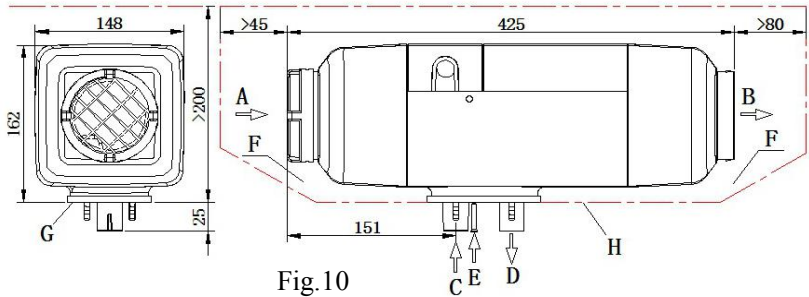
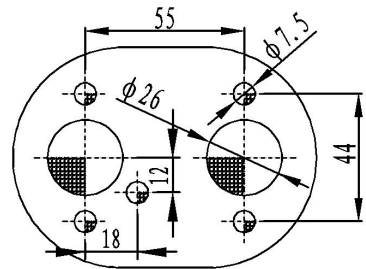

Fig. 10
Fig. 11
4.2.2 For convenience of heating air flow and installation, maintenance of the main heater, enough space must be provided for installation. Please refer to the scope of double dot line for the space for installation, as shown in Fig. 10.
Please make sure that there is not any foreign matter in the gap between the bottom surface of the main heater and the installation surface of the vehicle (Fig. 10-F).
4.2.3 Good sealing is necessary between the main heater and the installation surface on the vehicle. A special gasket (as shown in Fig. 10) supplied by the manufacturer must be inserted in between during installation. The installation surface must be smooth and steady enough. Its parts at the installation bases of the main heater shall have unevenness of less than 1mm. After drilling installation holes, evenness must be improved according to this requirement. At installation, please rotate the four M6 nuts, which provided by the manufacturer should be tightened. The torque for tightening shall be 6Nm+1Nm. Please refer to Fig. 11 for positions of installation holes.